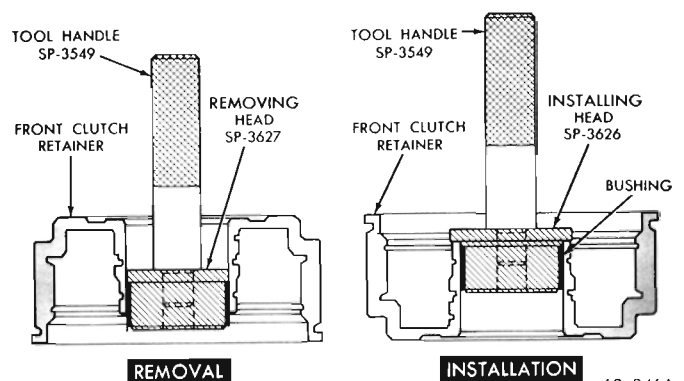

Fig. 90—Replacing Front Clutch Retainer Bushing
(1) Lay the clutch retainer (open end down) on a clean smooth surface and place the removing head Tool SP-3627 in the bushing (Fig. 90). Install the handle Tool SP-3549 in the removing head.
(2) Drive the bushing straight down and out of the clutch retainer bore. Be careful not to cock the tool in the bore.
(3) Lay the clutch retainer (open end up) on a clean smooth surface. Slide a new bushing on the installing head Tool SP-3626, and start them in the clutch retainer bore (Fig. 90).
(4) Install handle Tool SP-3549 in the installing head. Drive the bushing into the clutch retainer until the tool bottoms.
(5) Thoroughly clean the clutch retainer before assembly and installation.